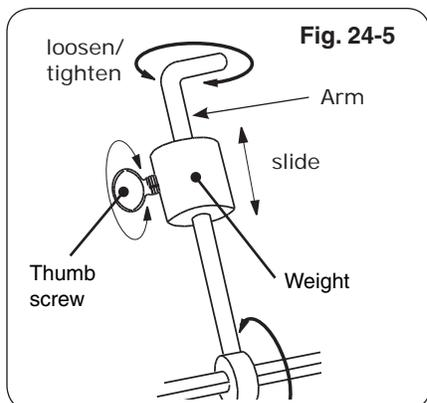

Fig. 24-5
7. Slide the counterbalance weight up or down the arm until the rod rotates most evenly then tighten thumb screw (Fig. 24-5 and Fig. 24-6).